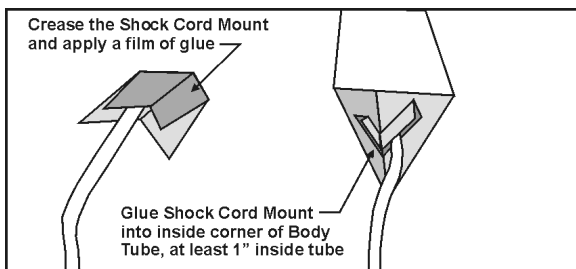

Figure 17
18. Tightly crease the Shock Cord Mount as shown in **Figure 17**, and apply a film of glue to the outside area of this creased shock cord mount. Glue this inside the top of the Body Tube at least 1" inside the tube, as shown.